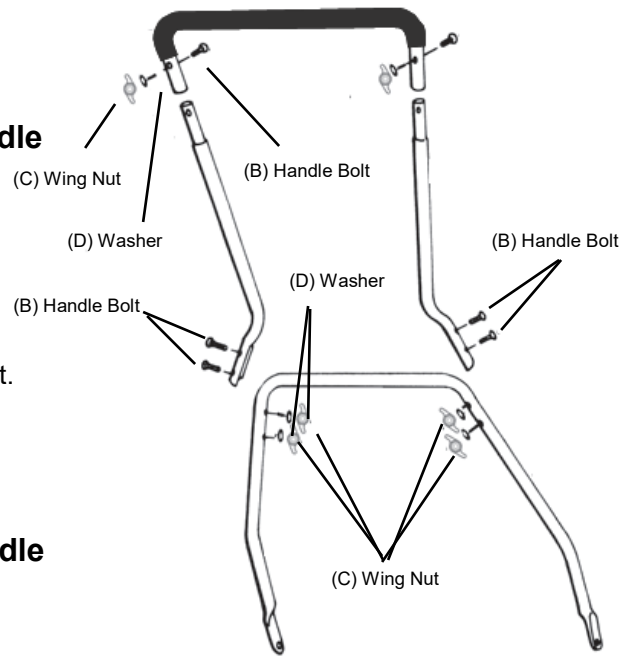

Figure 1
2. 4 Piece Handles with Foam Grip (See Figure 1)
- As you follow the directions, refer to Figure 1.